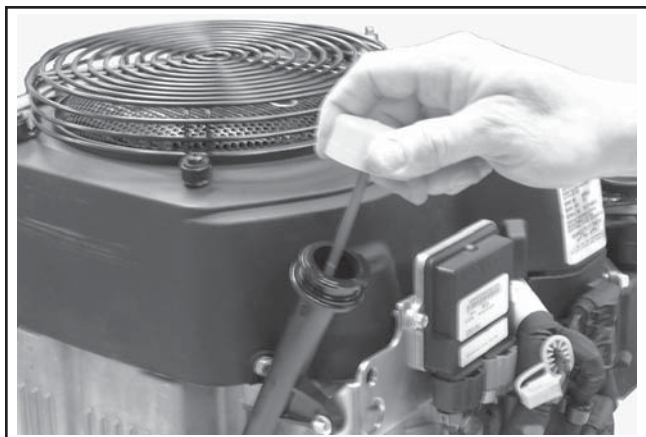

Figure 8-2. Removing Oil Fill Cap/Dipstick.
1. Remove oil fill cap/dipstick and one of the oil drain plugs. See Figure 8-2.